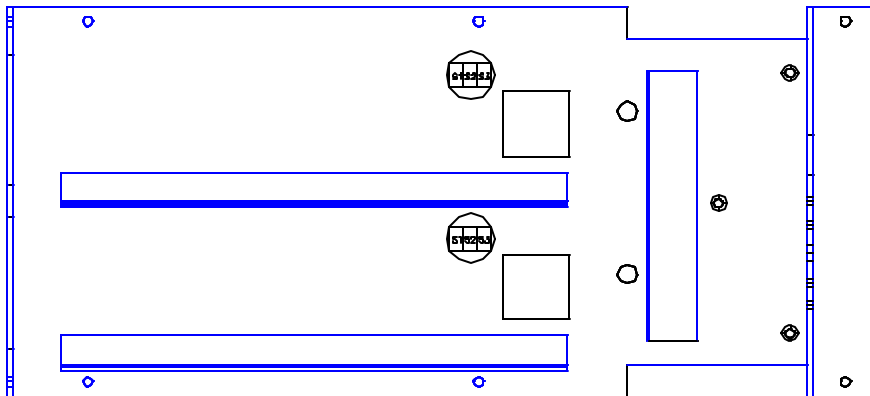

Figure 3 GATEWAY 16000 Side Panel
- S1 and S2 (Fig. 3) select the Profibus Baud Rate:
S3 (Fig.3): When Off (Up) selects Simplex Profibus – A single Profibus is connected to both A and B sides of the GATEWAY 16000. When On (Down) selects Duplex Profibus – A separate cable is connected to each side of the GATEWAY 16000 from separate Profibus Master interfaces.